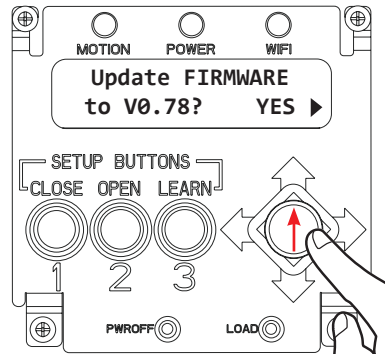

Figure 35
4. Once the Warnings have stopped, press up on the joystick to scroll to the Update FIRMWARE screen. (Figure 35)